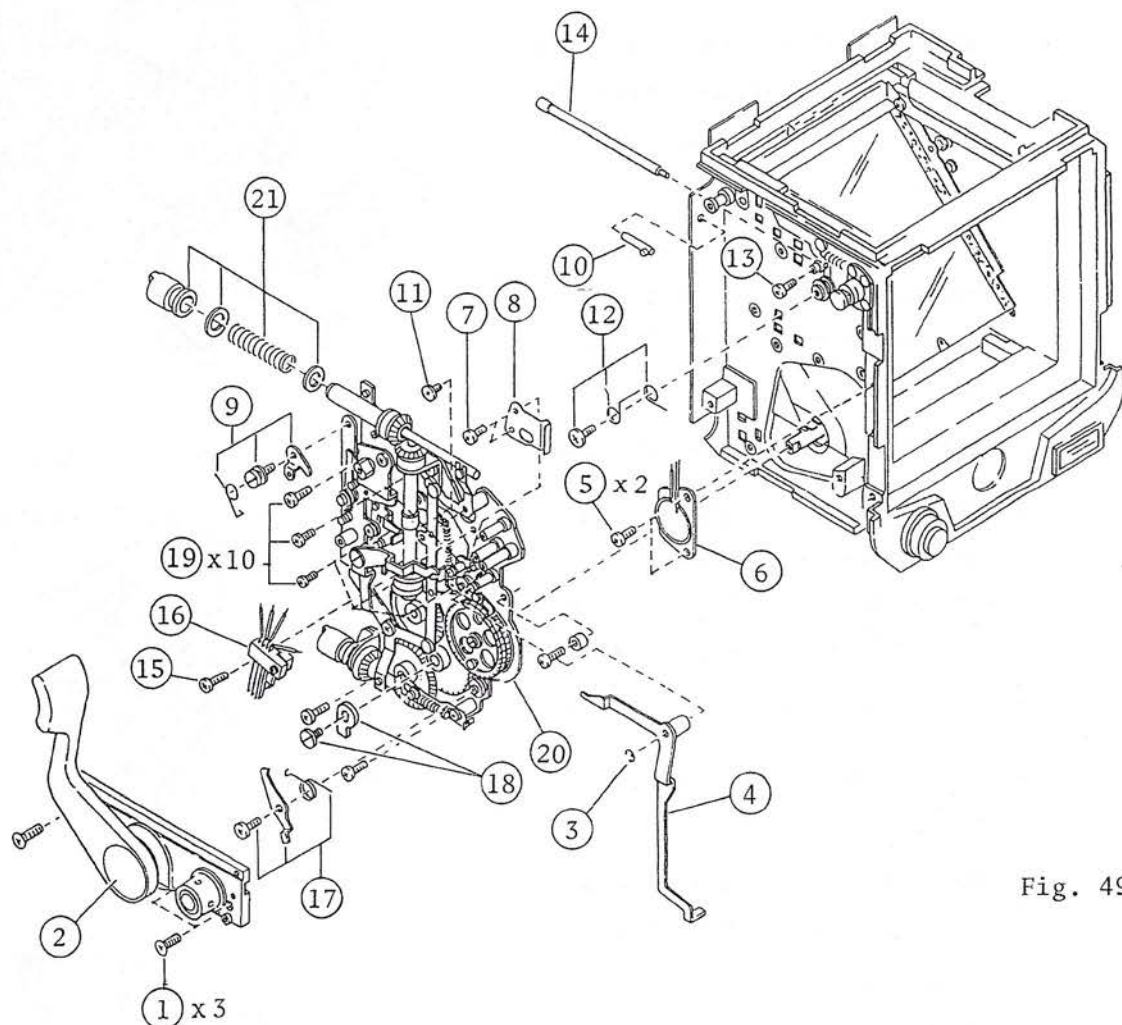
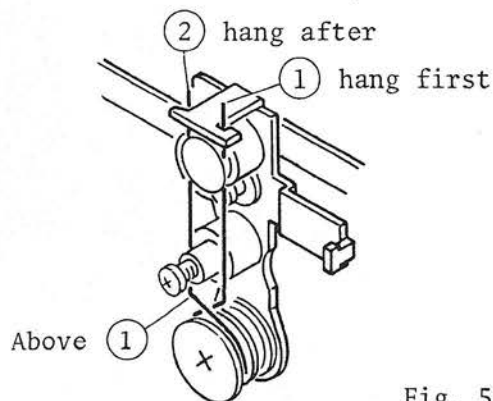

Fig. 49
Fig. 51
- c. The arabic numeral in a circle as shown in Fig. 49 indicates procedure of disassembly.
3. When set the spring for the horizontal screen mask connector, hang (1) first and next (2) as shown in Fig. 51.
4. Check position of (4) lever.
5. Never damage two springs of (B) .
6. Don't forget to hang the spring of (17) winding stop pawl (Fig. 49).
7. Applying screw-lock tight to (18) screw is required before tightening it.